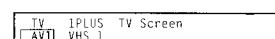

Fig. 43.
- 2 Select TV Screen (input source for the TV screen) or output (output source) with  $\Delta$ + or  $\nabla$ - and press OK. One of the source items changes colour. (See Fig. 43)